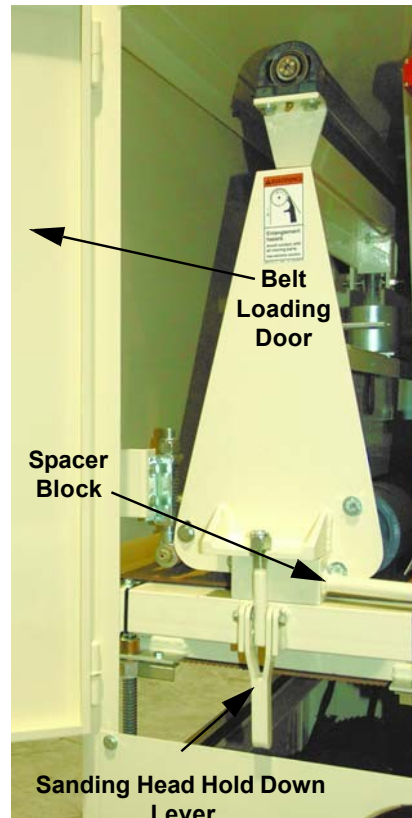

Figure 49: Platen 37"x 60"
2. Open the belt loading door, loosen the sanding head lever and remove the spacer block. See Fig.49.
3. Slide the complete platen between the two bottom rollers on the platen support. See Fig. 49& 50.